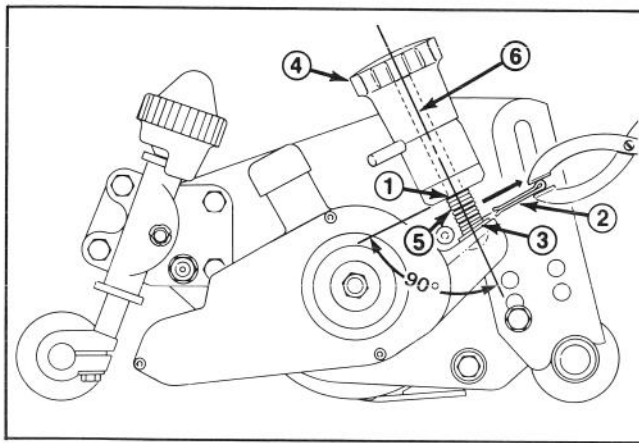

Figure 18
2. Cap screw and lock nut hidden behind assembly (2)
3. Flat head screws (4)
6. Quick up lever (2) (in raised position)
14. Install right and left roller extension assemblies and the roller removed in step 2 using the cap screw and lock nut, flat head screw and lock nut, and carriage bolt and pallet nut provided with the Grooming Reel Kit (Fig. 18). It may be necessary to turn the groomer height of adjustment knob to get access to the bolt holes. The hex head capscrew must be installed with the head facing outboard (nuts to the inside).
- A. Turn the grooming reel adjustment knob until the spring is compressed all the way (Fig. 18).
- B. Make sure that the carriage bolt which runs through the center of the spring is in 90° alignment (Fig. 18). Spring should be centered in adjustment mechanism.